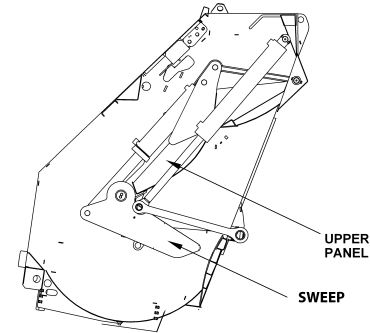

Figure 49. Packer Blade Starting Position
- PULL the slide and blade levers at the same time and RELEASE the levers. The levers will self-center at the end of the commanded position by way of valve internal hydraulic pressure. See the figure 49.